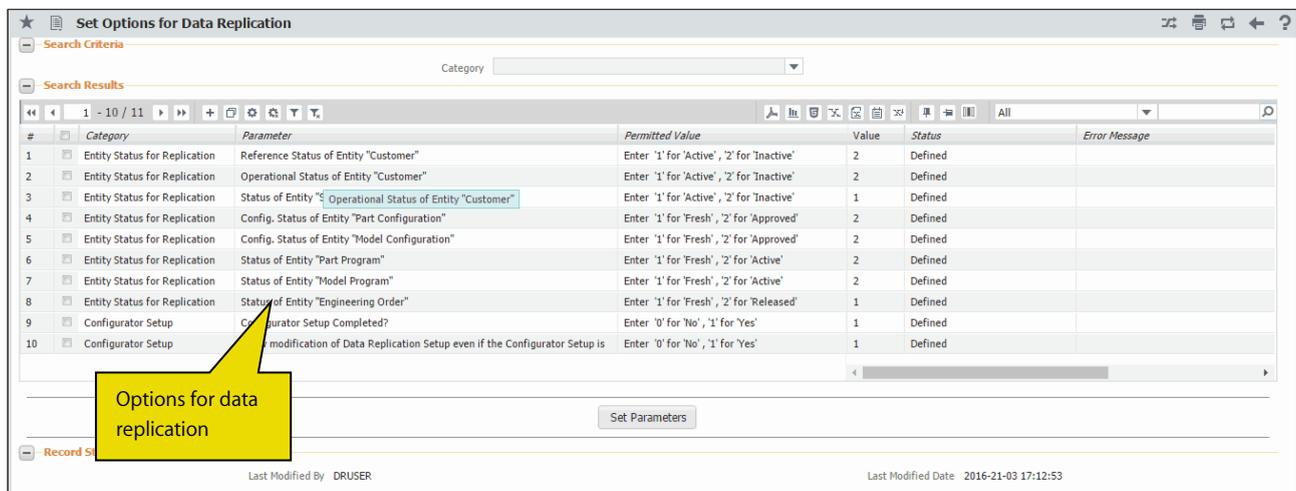

Figure 2.1 Setting Options for Data Replication
1. Select the **Set Options** activity under the **Central Data Replication Configurator** business component. The **Set Options for Data Replication** page appears. See *Figure 2.1*.